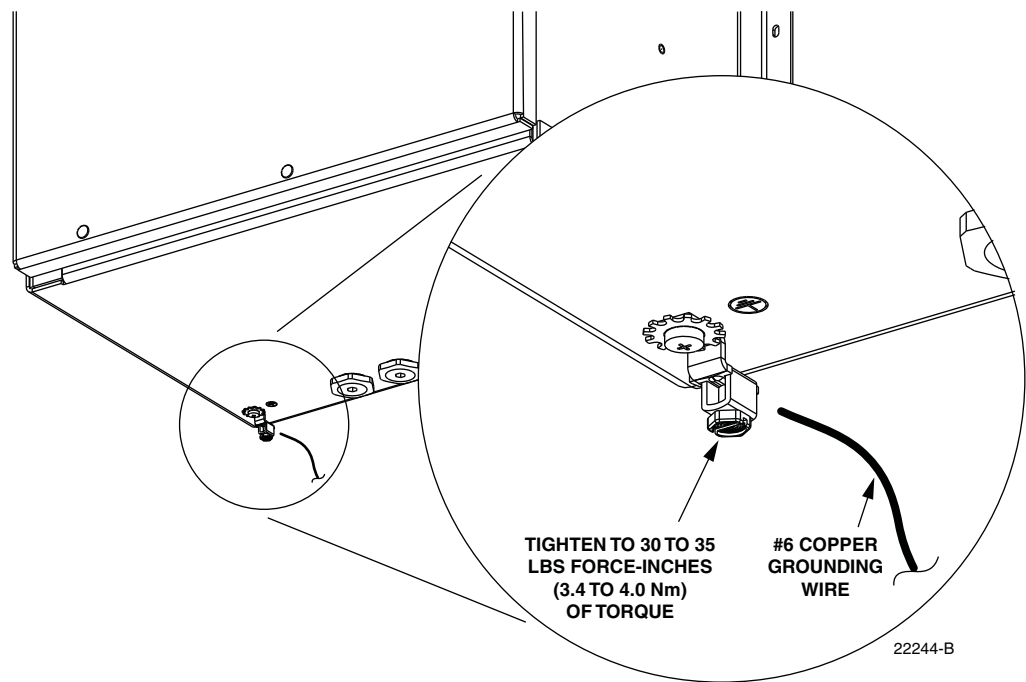

Figure 9. Grounding Wire Connection To Cabinet
1. Locate the grounding lug which is mounted on the underside of the cabinet as shown in Figure 9.